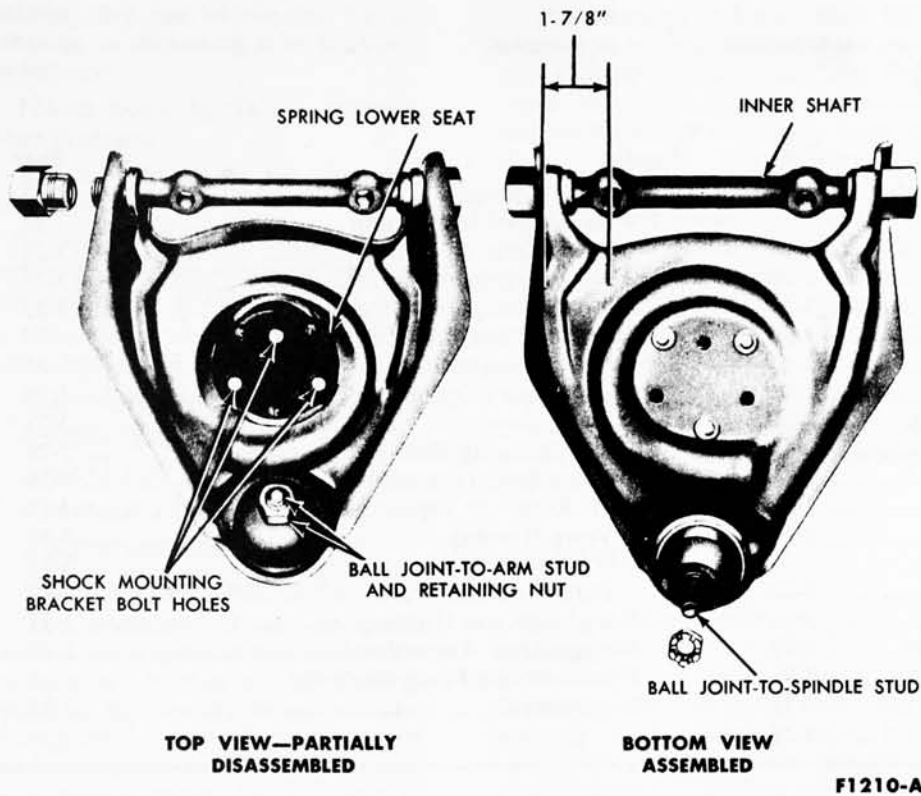

FIG. 14 –Upper Suspension Arm
2. Position the shaft in the arm, apply grease to the new bushings, and install the bushings loose on the shaft and arm. Turn the bushings so that the shaft is exactly centered in the arm. The shaft will be properly centered when located at the dimension shown in Fig. 14.
1. Remove the ball joint-to-arm retaining nut and remove the ball joint from the upper arm (Fig. 14).
3. Install the attaching nut and torque to specifications (Fig. 14).